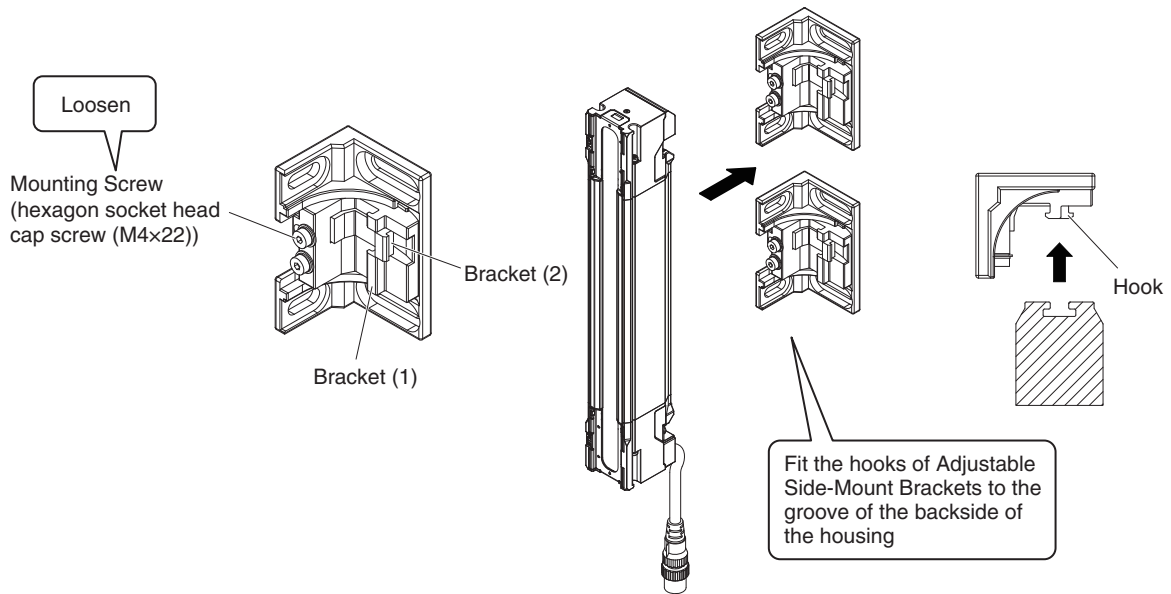

Fig. 2
- 2.** Fully loosen the Mounting Screws (hexagon socket head cap screw (M4×22)). Fit the Brackets (1) and (2) to the backside of the sensor housing so that the groove of the backside of the housing receives the hooks of the Brackets (1) and (2). (Fig. 2)